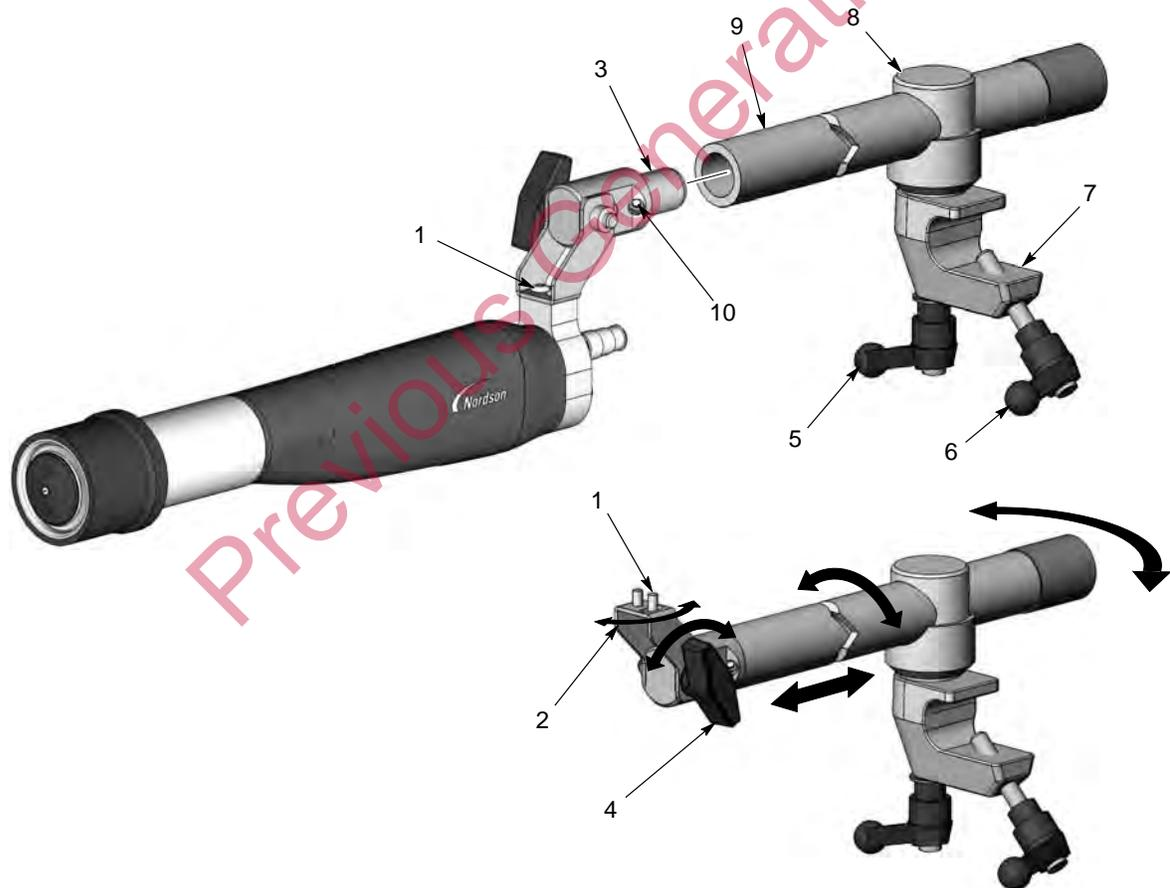

Figure 3 Standard Articulated Bar-Mount Gun Mounting
1. See Figure 3. Install the tube adapter (3) into the end of the adjusting rod (9) and secure it by tightening the set screw (10) with a 4-mm hex key.
- To move the gun tip from side to side, loosen the right button screw (1).
- To tilt the gun tip up or down, loosen the tilt knob (4).
- To rotate the adjusting rod or slide the adjusting rod forward or back, loosen the locking handle (5).
2. Position the clamp (7) on a 1 inch mounting bar and tighten the clamp handle (6).